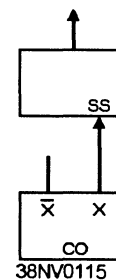

Figure 4-40.—Example of a single-phase clock system.
**SINGLE-PHASE CLOCK SYSTEMS.** —A single-phase clock system consists of a free running multivibrator and a single-shot multivibrator. A free running multivibrator provides the pulse and the single-shot multivibrator shapes the pulse. An oscillator could also be used to provide the trigger pulse for a single-shot multivibrator. The pulse is the output of the pulse shaper, which is then used to enable and disable circuits in whatever sequence is necessary to properly execute the computer program. Refer to figure 4-40 for a simple diagram (block and timing) of a single-phase clock system.